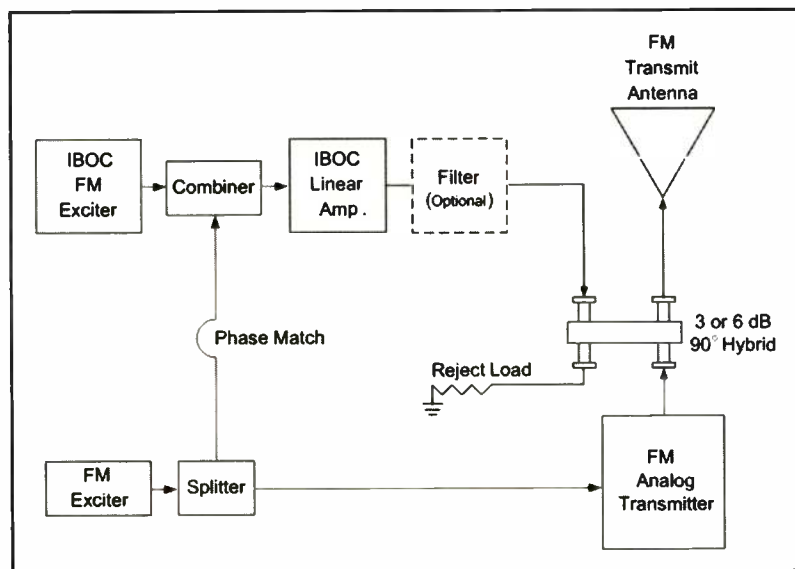

Fig. 2b: FM HD Radio Mid-level, Split Amplification
Thus its placement is possible directly beneath or in quadrature to the analog modulation. (See Fig. 2b.) This additional information transmits at a lower power level to avoid increasing noise to the analog signal.
**Mid-Level Combining:** A derivative of the high-level amplification technique is mid- or split amplification. (See Fig. 2b.) In this design, a traditional FM transmitter and a transmitter adjusted for amplification of both the analog and digital components share the burden of analog signal generation.